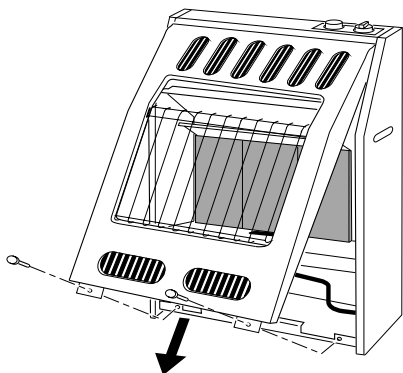

Figure 6 - Removing Front Panel of Heater (Model FBS-3B Shown)
3. Pull bottom of front panel forward, then down (see Figure 6).